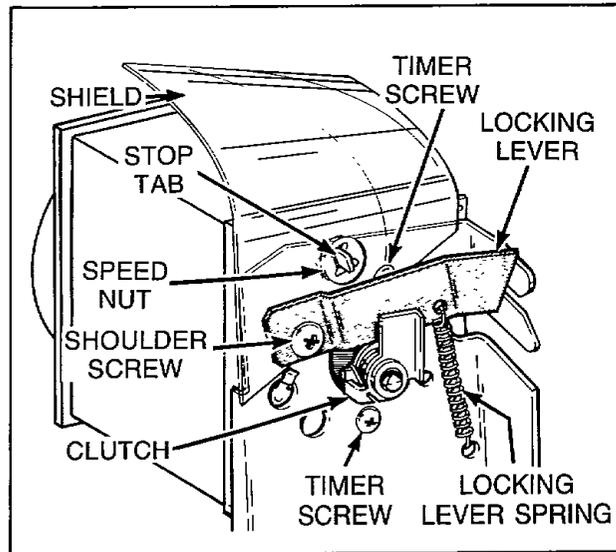

Figure 4
- d. (Models equipped with Mallory Timer) - Remove shoulder screw, locking lever and spring, *Figure 4*.
NOTE: When locking lever and spring are installed, they must be positioned as shown in *Figure 4*, and must pivot freely on shoulder screw.